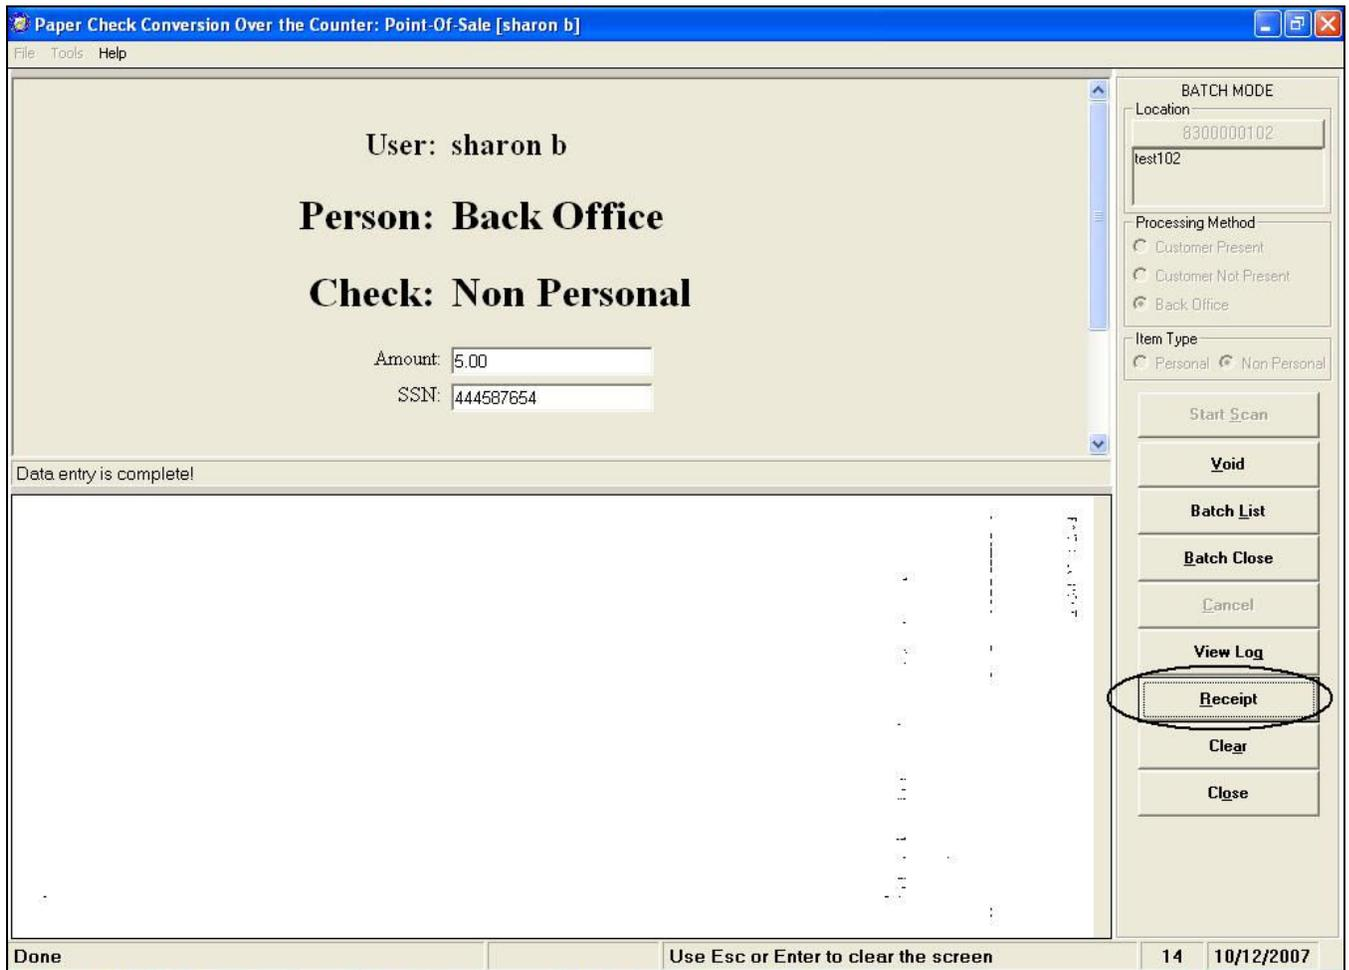

Figure 6.44.1
3. Click the **'Receipt'** button (See Figure 6.44.1)